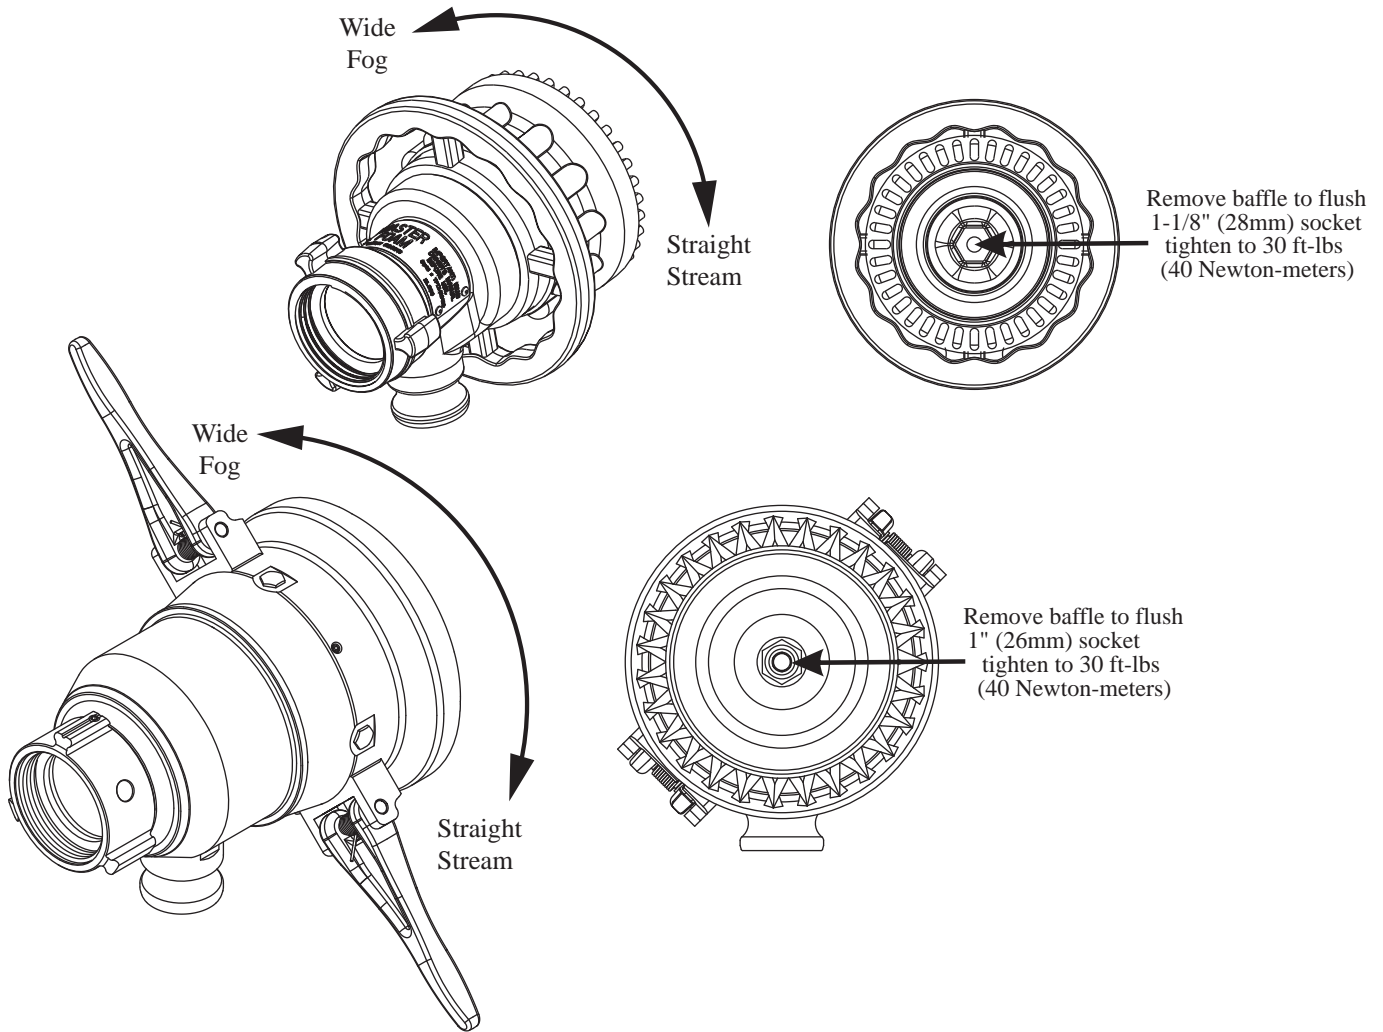

Fig 6.1 Pattern Control and Flushing
The MASTER FOAM's spray pattern is adjustable from straight stream to a 90° wide fog. Turning the stream shaper clockwise (as seen from the operating position behind the nozzle -see figure 6.1) moves the shaper to the straight stream position. Turning the shaper counterclockwise will result in an increasingly wider pattern. Only 90° of rotation is required to go from wide fog to a straight stream. The widest pattern is useful for protection and cooling but doesn't educt foam.
- Unscrew baffle (see figure 6.1) using 1-1/8 inch (28mm) socket.